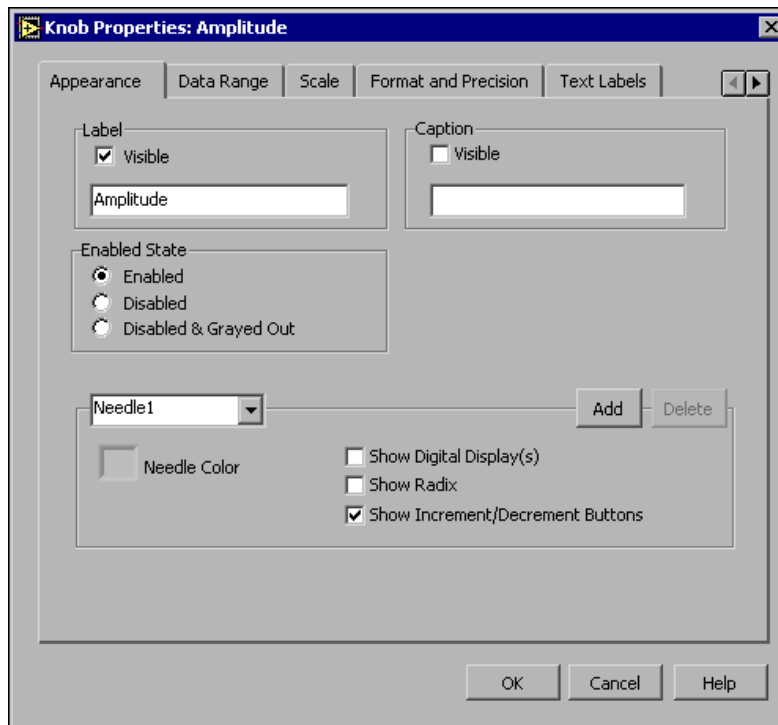

Figure 2.24
2. In the Label section on the Appearance tab, delete the label Knob, and type Amplitude in the text box. The Knob Properties dialog box should appear similar to Figure 2.24.